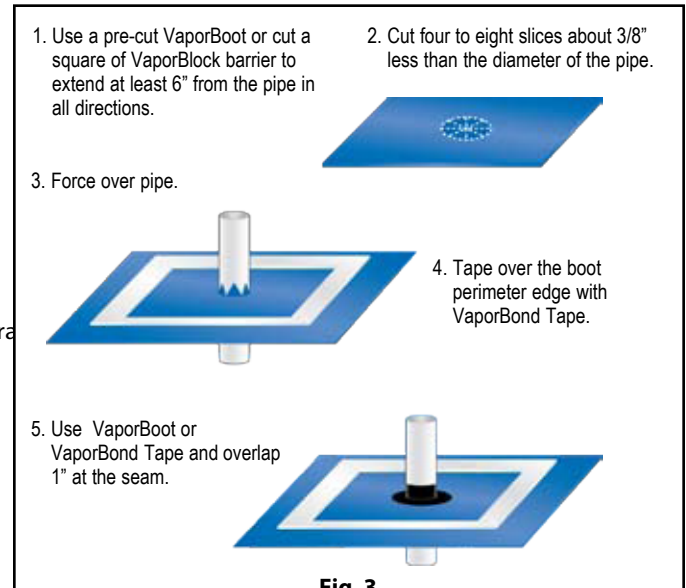

Fig. 3
- 1.4. Seal around all plumbing, conduit, support columns or other penetrations that come through the **VaporBlock** membrane. The VaporBoot Pipe Boot System is the recommended sealing method. (Includes 25 pre-cut VaporBlock pipe boots along with 2 rolls of VaporBoot Tape). (Fig. 3 & 4)
Pipe boots may also be fabricated from excess **VaporBlock** membrane (Fig. 3 & 4) and sealed with VaporBoot Tape or VaporBond Tape (sold separately).
To fabricate pipe boots from **VaporBlock** excess material (see Fig. 3 & 4 for A-E):
- E) Complete the process by taping over the boot perimeter edge with VaporBond Tape to create a monolithic membrane between the surface of the slab and moisture sources below and at the slab perimeter. (Fig. 3 & 4)